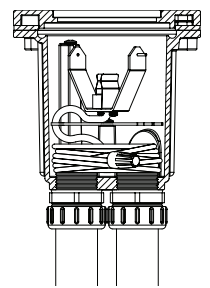

fig. 4
9. Coil wire leads along bottom of fixture and close wiring compartment as shown in fig. 4.